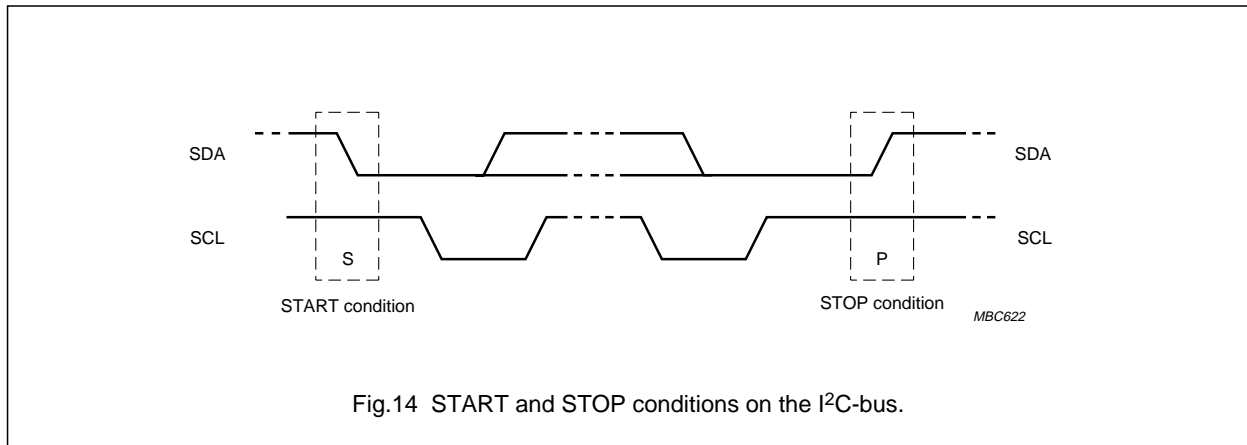

Fig.14 START and STOP conditions on the I²C-bus.
Both data and clock line will remain HIGH when the bus is not busy. A HIGH-to-LOW transition of the data line, while the clock is HIGH, is defined as a start condition (S); see Fig.14. A LOW-to-HIGH transition of the data line while the clock is HIGH is defined as a stop condition (P).